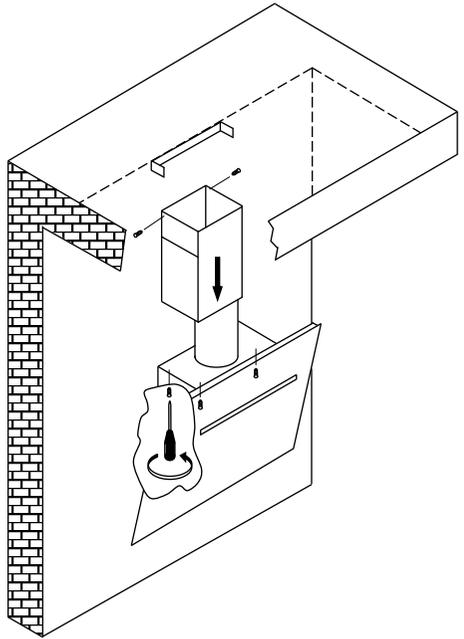

Fig 10
8. Fix the chimney to the Vivaldi and wall (Fig 10).